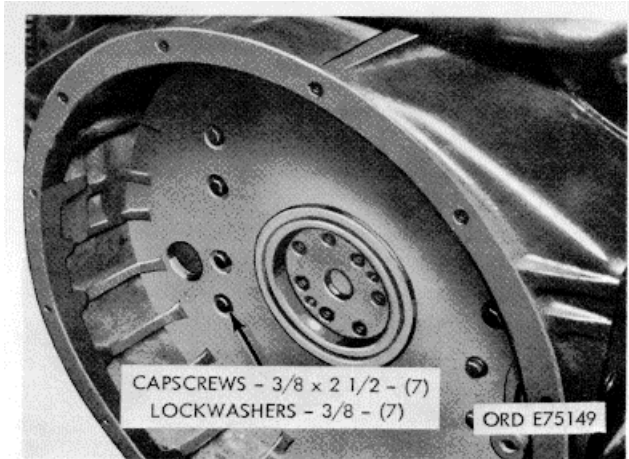
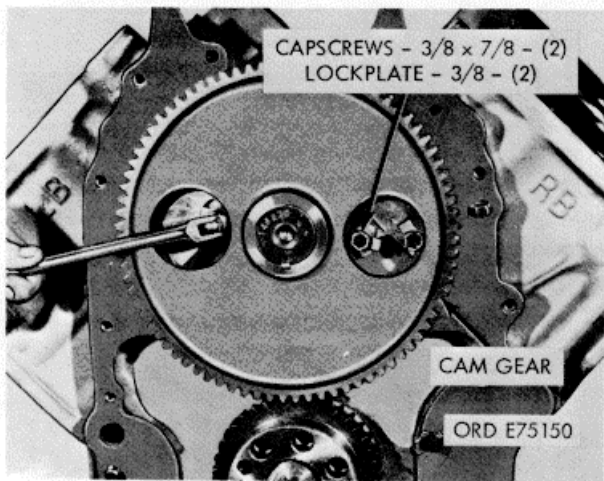
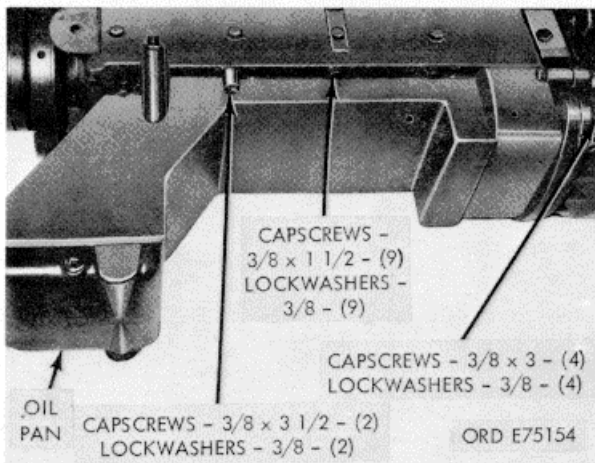

Figure 2-23. Flywheel housing - removal/installation.
Figure 2-24. Camshaft, gear and spacer plate-removal/installation.
Figure 2-25. Oil pan-removal/installation.
(2) Cut and remove lockwire on adapter to crankshaft securing screws and remove cap screws.
(3) Remove adapter.
J. Flywheel Housing (fig. 2-23).
(1) Remove eight cap screws, lockwashers, and flat washers securing oil pan to flywheel housing.
(2) Remove seven cap screws and lockwashers securing flywheel housing to engine block.
(3) Using a rubber mallet, or brass head driver, free housing from block and remove housing and gasket.
k. Camshaft, Gear, and Spacer Plate (fig. 2-24).
(1) Straighten lockplate fingers on two cap screws securing camshaft thrust plate to engine block.
(2) Remove cap screws and discard lockplates.
(3) Remove camshaft and gear from block. Rotate camshaft gear slightly while pulling.
(4) Remove spacer plate and two plate to block gaskets.
l. Oil Pan (fig. 2-25).